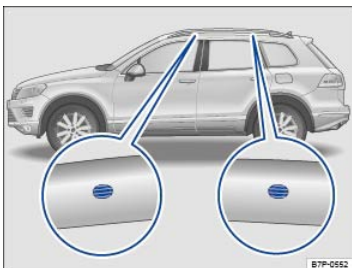

Fig. 104 Attachment points for the base carrier and roof rack.
No base carrier or roof rack can be installed *unless* the vehicle has roof rails ⇒ Fig. 104.
The mounting holes for positioning are on the inside of the roof rails ⇒ Fig. 104 (magnified view).
- Only mount the roof rack base carrier on the markings shown in the illustration ⇒ Fig. 104.